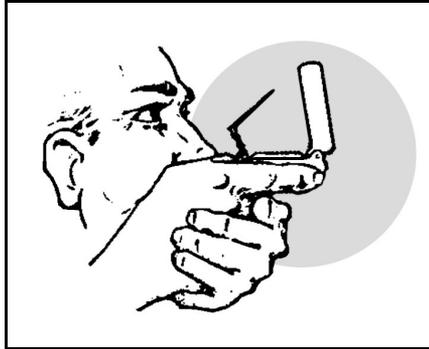

Figure 071-329-1003-3. Compass-to-cheek method
3. Determine an azimuth with the compass-to-cheek method (figure 071-329-1003-3).